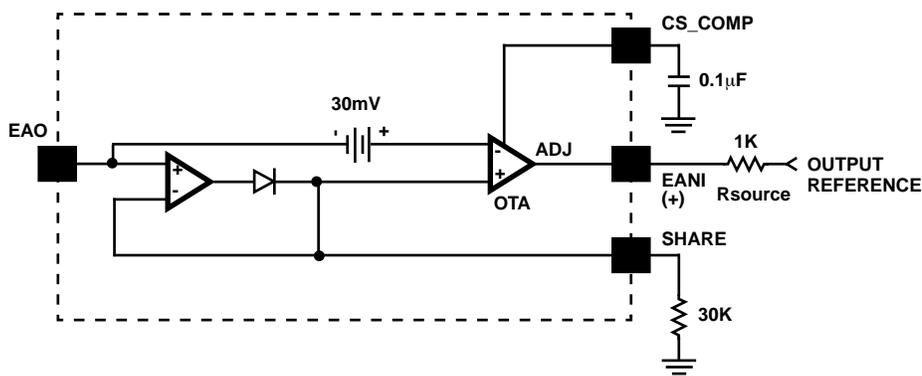

FIGURE 10. SIMPLIFIED CURRENT SHARE CIRCUIT
- The unit with the highest reference is the master. Other units, as slaves, adjust their references via a source resistor to match the master reference sharing the load current. The source resistor is typically 1k Ω connecting the EANI pin and the OUTPUT REFERENCE (External reference or BGREF), as shown in Figure 10. The share bus requires a 30k Ω resistive load per unit, up to 10 units.